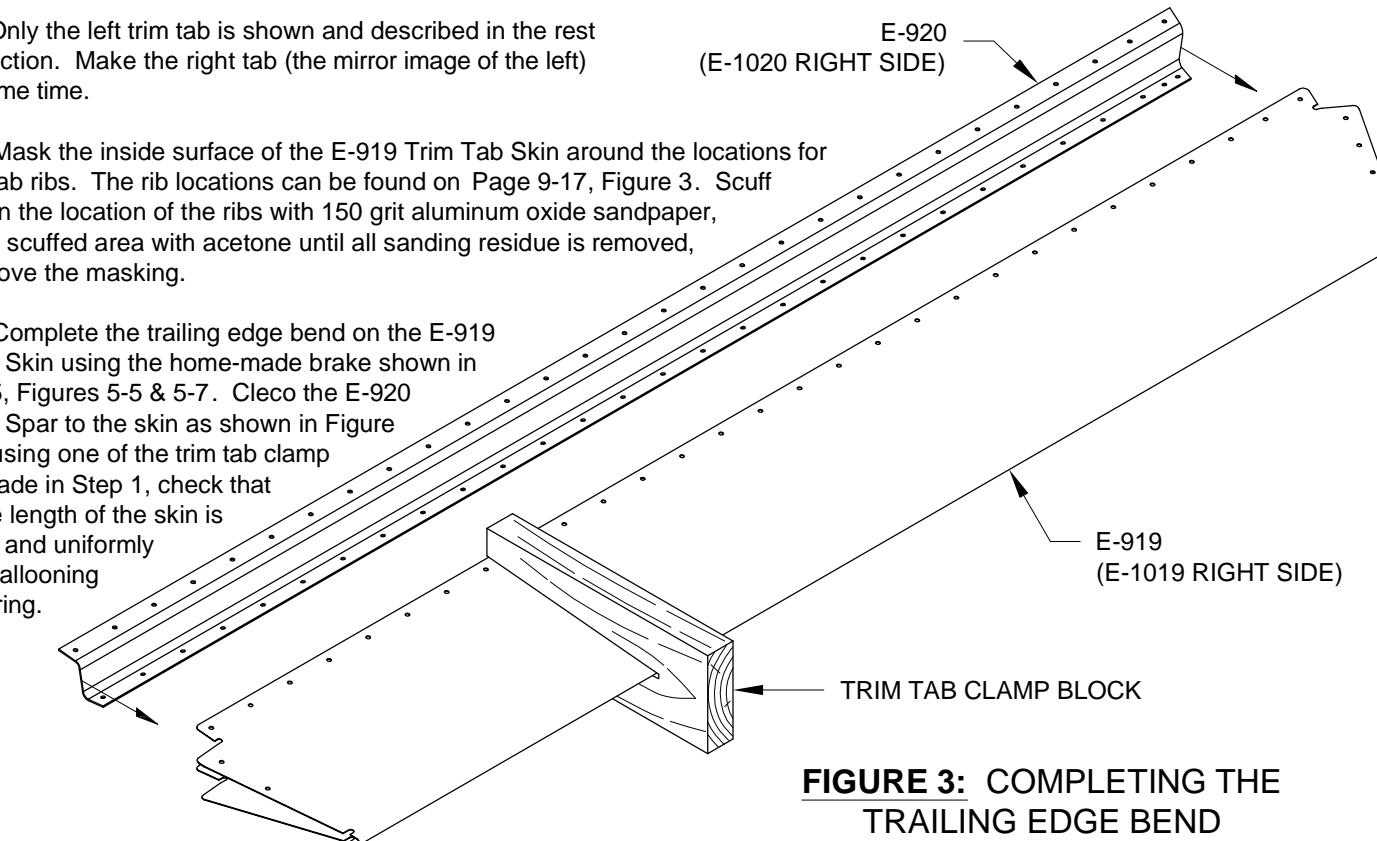

FIGURE 3: COMPLETING THE TRAILING EDGE BEND
Step 3: Mask the inside surface of the E-919 Trim Tab Skin around the locations for the trim tab ribs. The rib locations can be found on Page 9-17, Figure 3. Scuff the skin in the location of the ribs with 150 grit aluminum oxide sandpaper, clean the scuffed area with acetone until all sanding residue is removed, then remove the masking.
Step 4: Complete the trailing edge bend on the E-919 Trim Tab Skin using the home-made brake shown in Section 5, Figures 5-5 & 5-7. Cleco the E-920 Trim Tab Spar to the skin as shown in Figure 3, then, using one of the trim tab clamp blocks made in Step 1, check that the entire length of the skin is bent fully and uniformly with no ballooning or puckering.